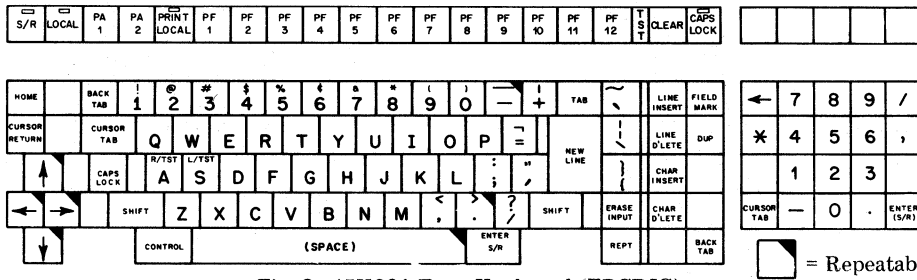

Fig. 2—45K301-Type Keyboard (EBCDIC)
2.01 The keyboard provides attendant input and system status. Teletype Standard Serial Interface (SSI) signalling is used in all device/controller transmission. The keyboard is comprised of modular keyswitches mounted on a logic circuit card enclosed in a metal framework and a removable plastic cover. The key position layout used for a 45K301-type keyboard is shown in Fig. 2. This arrangement has five rows of alphanumeric and control keyswitches (some with indicators) and an external cluster of keyswitches. There are seven repeat keys (underline, dash, period, right arrow, space, cursor up, cursor down, cursor left and right). The repeat action is accomplished by depressing the keyswitch with additional force. A slight delay of approximately 100 milliseconds is provided to avoid false entries during the repeat mode.
2.10 An external cluster of twenty keys, plus five indicators is placed on the main key arrangement. This cluster contains a numeric pad and a few function keys, as shown in Fig. 2. Blocking keytops cover the cluster area keys, if they are not desired.